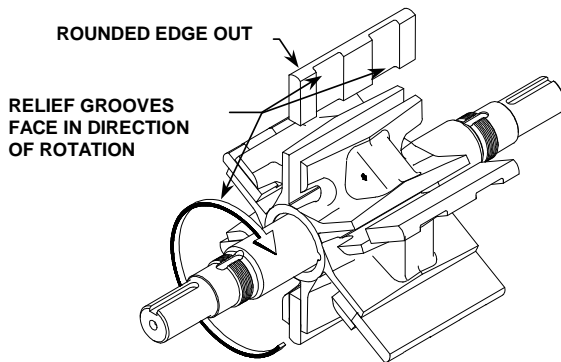

Figure 4
3. Install a new vane, ensuring that the rounded edge is UP, and the relief grooves are facing towards the direction of rotation. See Figure 4.
9. Inspect the vanes (14) and push rods (77) for wear and damage, and replace as follows:
- a. Partially install the non-driven end of the rotor and shaft (13) into the open side of the pump cylinder.
- b. Leave part of the rotor outside of the cylinder so that the bottom vanes can be installed and held in place as the push rods are installed in the push rod holes of the rotor. Insert the new vanes into the rotor slots with the rounded edges outward, and the vane relief grooves facing **TOWARDS** the direction of rotation. Refer to Figure 4.